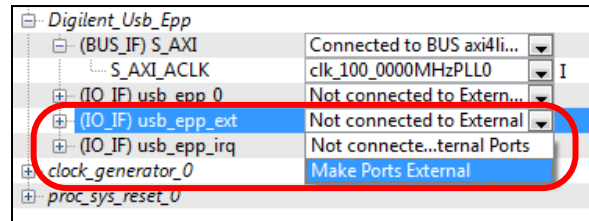

Figure 3. Making external connections for Digilent_Usb_Epp
- Go to the “Ports” tab in XPS and expand *Digilent_Usb_Epp* core instance. Connect **S_AXI_ACLK** to **clk_100_0000MHzPLL0** then make the ports under “(IO_IF)” **usb_epp_ext** external, like Figure 3 below shows: